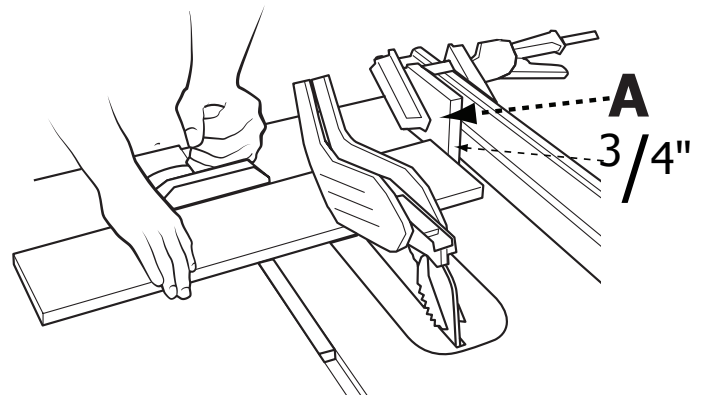

Figure 33
When crosscutting a number of pieces to the same length, you can clamp a block of wood (A) (Fig. 33) to the fence and use it as a cut-off gauge. The block (A) must be at least $\frac{3}{4}$ inch (19mm) thick to prevent the cut off piece from binding between the blade and the fence. Once the cut-off length is determined, lock the fence and use the miter gauge to feed the workpiece into the blade.